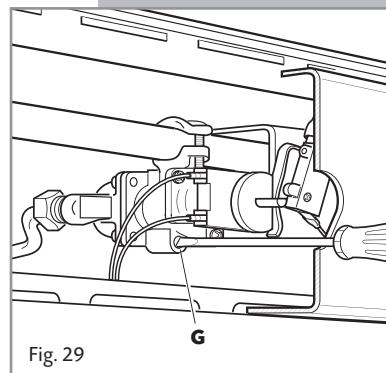

Fig. 29
- Remove the thermostat knob and by means of a thin screwdriver pass by the hole in the facia panel to unscrew of 3 turns the by-pass screw **G** (fig. 29).
- Slowly tighten the by-pass screw **G** (fig. 29) until you get a flame of 3-4 mm long.